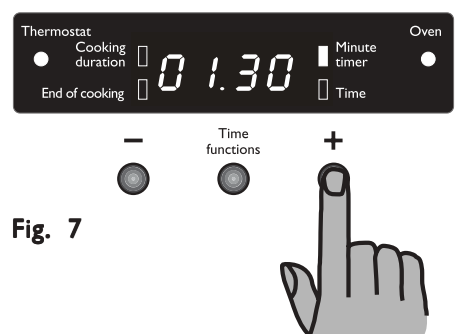

Fig. 7
2. Then, press button “+” or “-” (maximum: 2 hours, 30 minutes - Fig. 7).